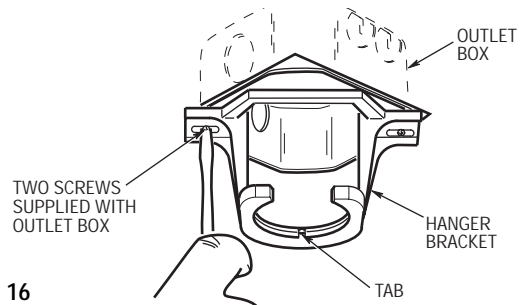
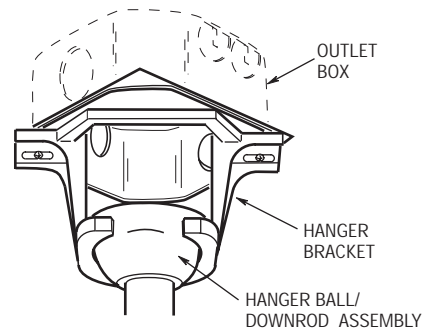

Figure 16
Figure 17
1. Securely attach the hanger bracket to the outlet box using the two screws supplied with the outlet box. (Figure 16.)
2. Carefully lift the fan and seat the hanger ball/downrod assembly on the hanger bracket that was just attached to the outlet box (Figure 17). Be sure the groove in the ball is lined up with tab on the hanger bracket (Figure 16).